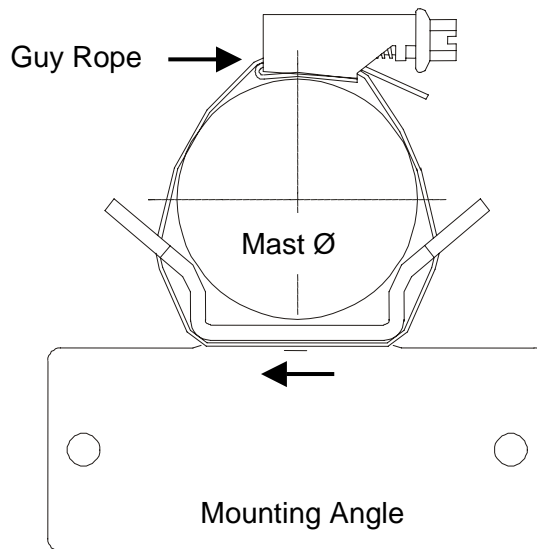

Figure 2
4. The mounting is carried out by prepared clamps. The free end of the guy rope of the prepared clamp is put around mast and mounting angle and is screwed in. See figures 2 u. 3.